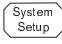

Figure 6-14 Single MFC Control Recipe Setup Screen
An appropriate PID recipe must be selected and defined in 946 Controller when to operate an MFC under PID control mode. The PID Recipe is a collection of 14 control parameters and settings associated with a PID control of system pressure. In a 946 Controller, maximum of 8 recipes (R1 to R8) can be defined as shown in Figure 6-14.
1. Press the  button, move the cursor to PID Recipe Edit as shown in Figure 6-4, then press  key to display the Pressure Control Parameters Setting Recipes screen as shown in Figure 6-14;
2. Press  or  keys to select a desired recipe for editing or displaying (highlighted by grey background, such as C1 in Figure 6-14), then, press  to enter key to enter the edit mode. Once the 946 Controller is at the PID recipe editing mode, one can edit any of the 14 PID parameters and settings associated with each recipe.
Refer to Figure 6-14 for setting up MFC PID control recipe:
- Switch the PID Control parameter from ON to OFF as shown in Figure 6-17. Once the PID control is turned off, the flow rate for the MFC will be changed to the Preset set point as defined in the recipe as shown in Figure 6-14.